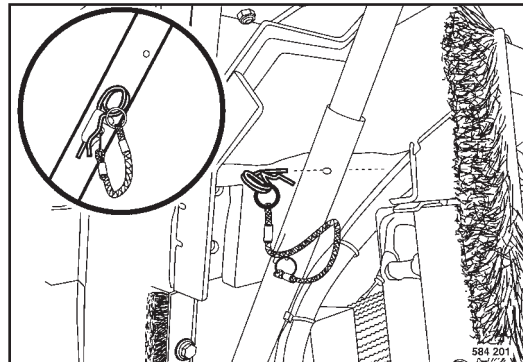

Fig. 160
- Open the engine hood (Fig. 160) completely and secure it.